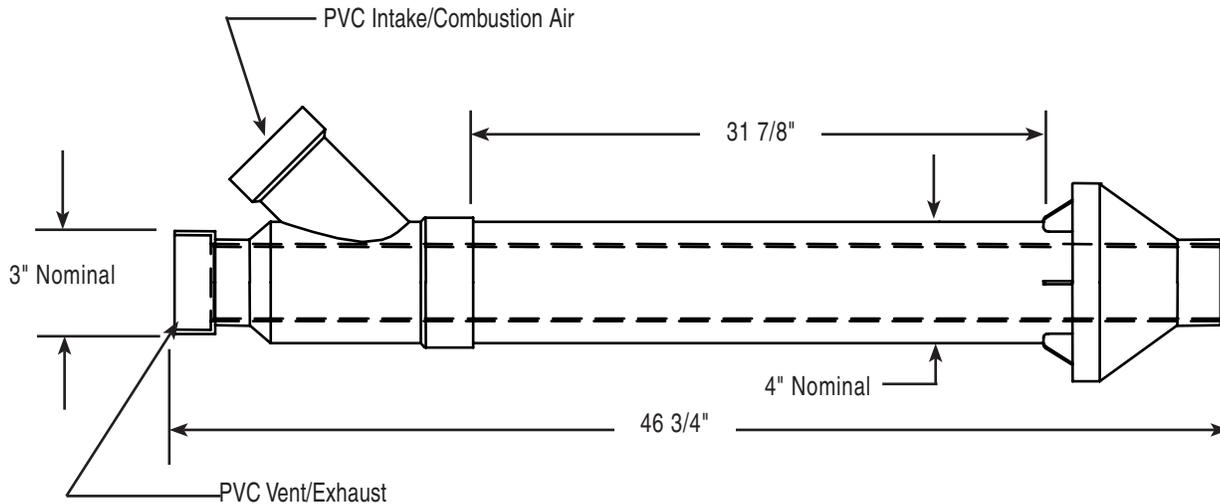

Figure 13. - Dimensional Layout of Concentric Vent Kit
- a. Cement concentric Y fitting to larger diameter pipe. (See Figure 13)..
Cement heater combustion-air and vent pipes to concentric y fitting assembly (Figure 13). See Figure 16 for proper pipe attachment.